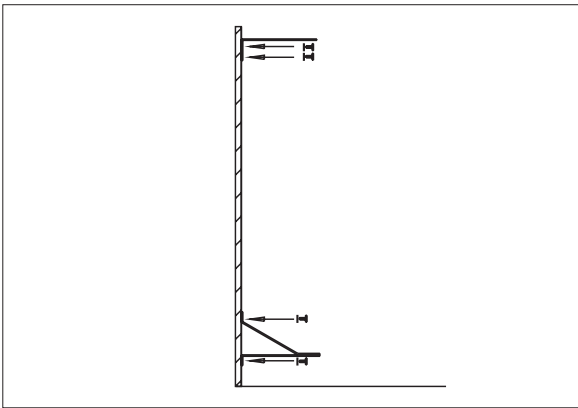

Figure 2 – Install mounting bracket
Step 1: Secure wall and stabilizing brackets to mounting surface (Figure 2, page 4).